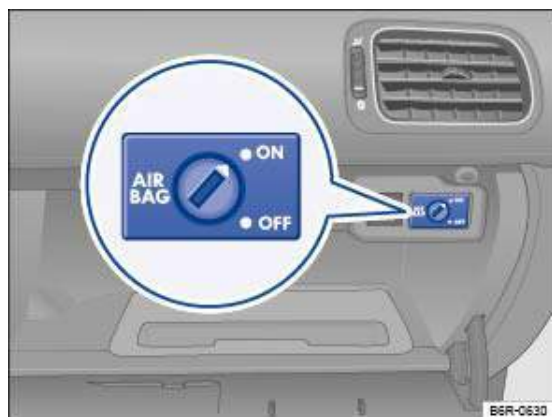

Fig. 62 In the stowage compartment on the front passenger side: key switch for disabling and enabling the front airbag on the front passenger side
- Insert the open key bit into the key switch in the stowage compartment → Fig. 62 to the second point of resistance. Around three quarters of the key bit should be inserted in the key switch at this point →  .